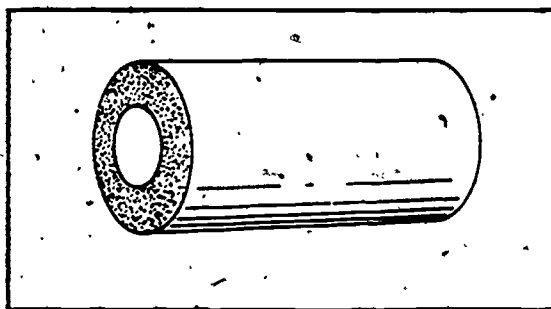

Figure 4-5. Flex rubber insulation.
e. **Flex rubber.** Flex rubber insulation, shown in figure 4-5, is a tough, flexible rubber material constructed of millions of uniform closed cells. It has good insulating qualities, good cementing qualities, excellent weather aging qualities, and is ideal for the prevention of sweating of cold water lines. In addition, it is water and flame resistant. Flex rubber insulation is recommended for covering tubing used in refrigeration and cold water lines in homes as well as in industrial plants and commercial buildings. This rubber insulating material comes in random lengths with a wall thickness size of  $3/8$  to  $3/4$  inch. It is made to fit pipe sizes up to 4 inches.